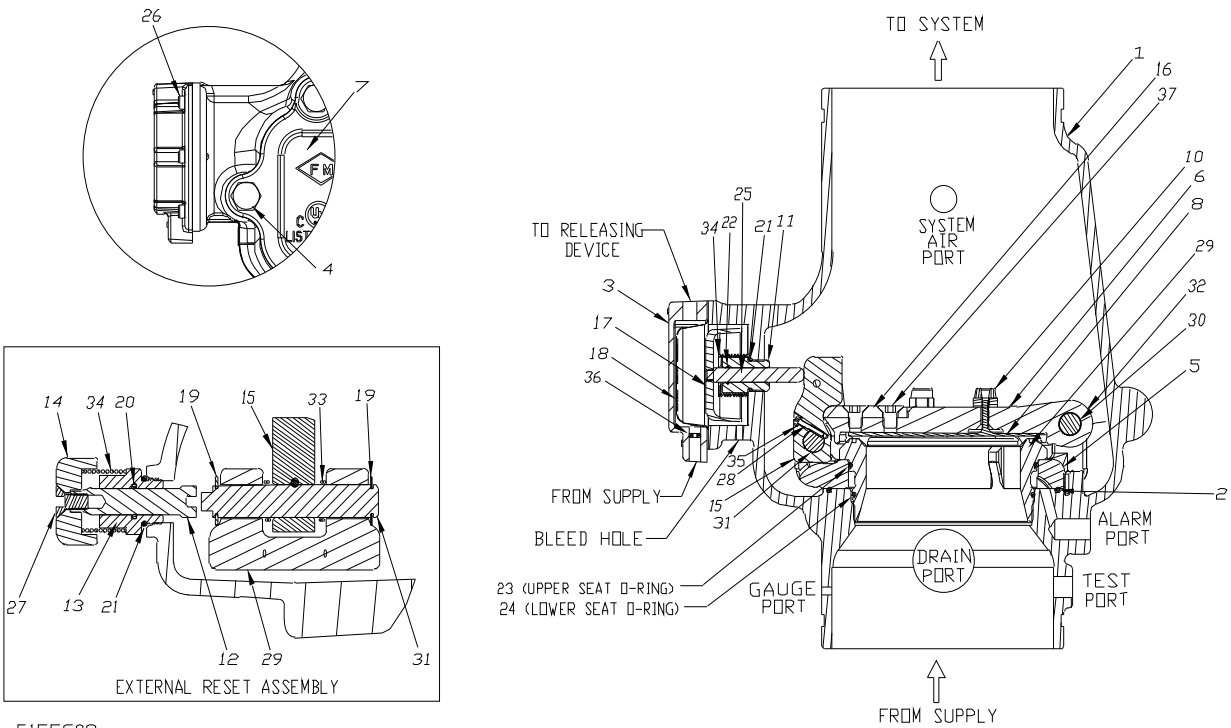
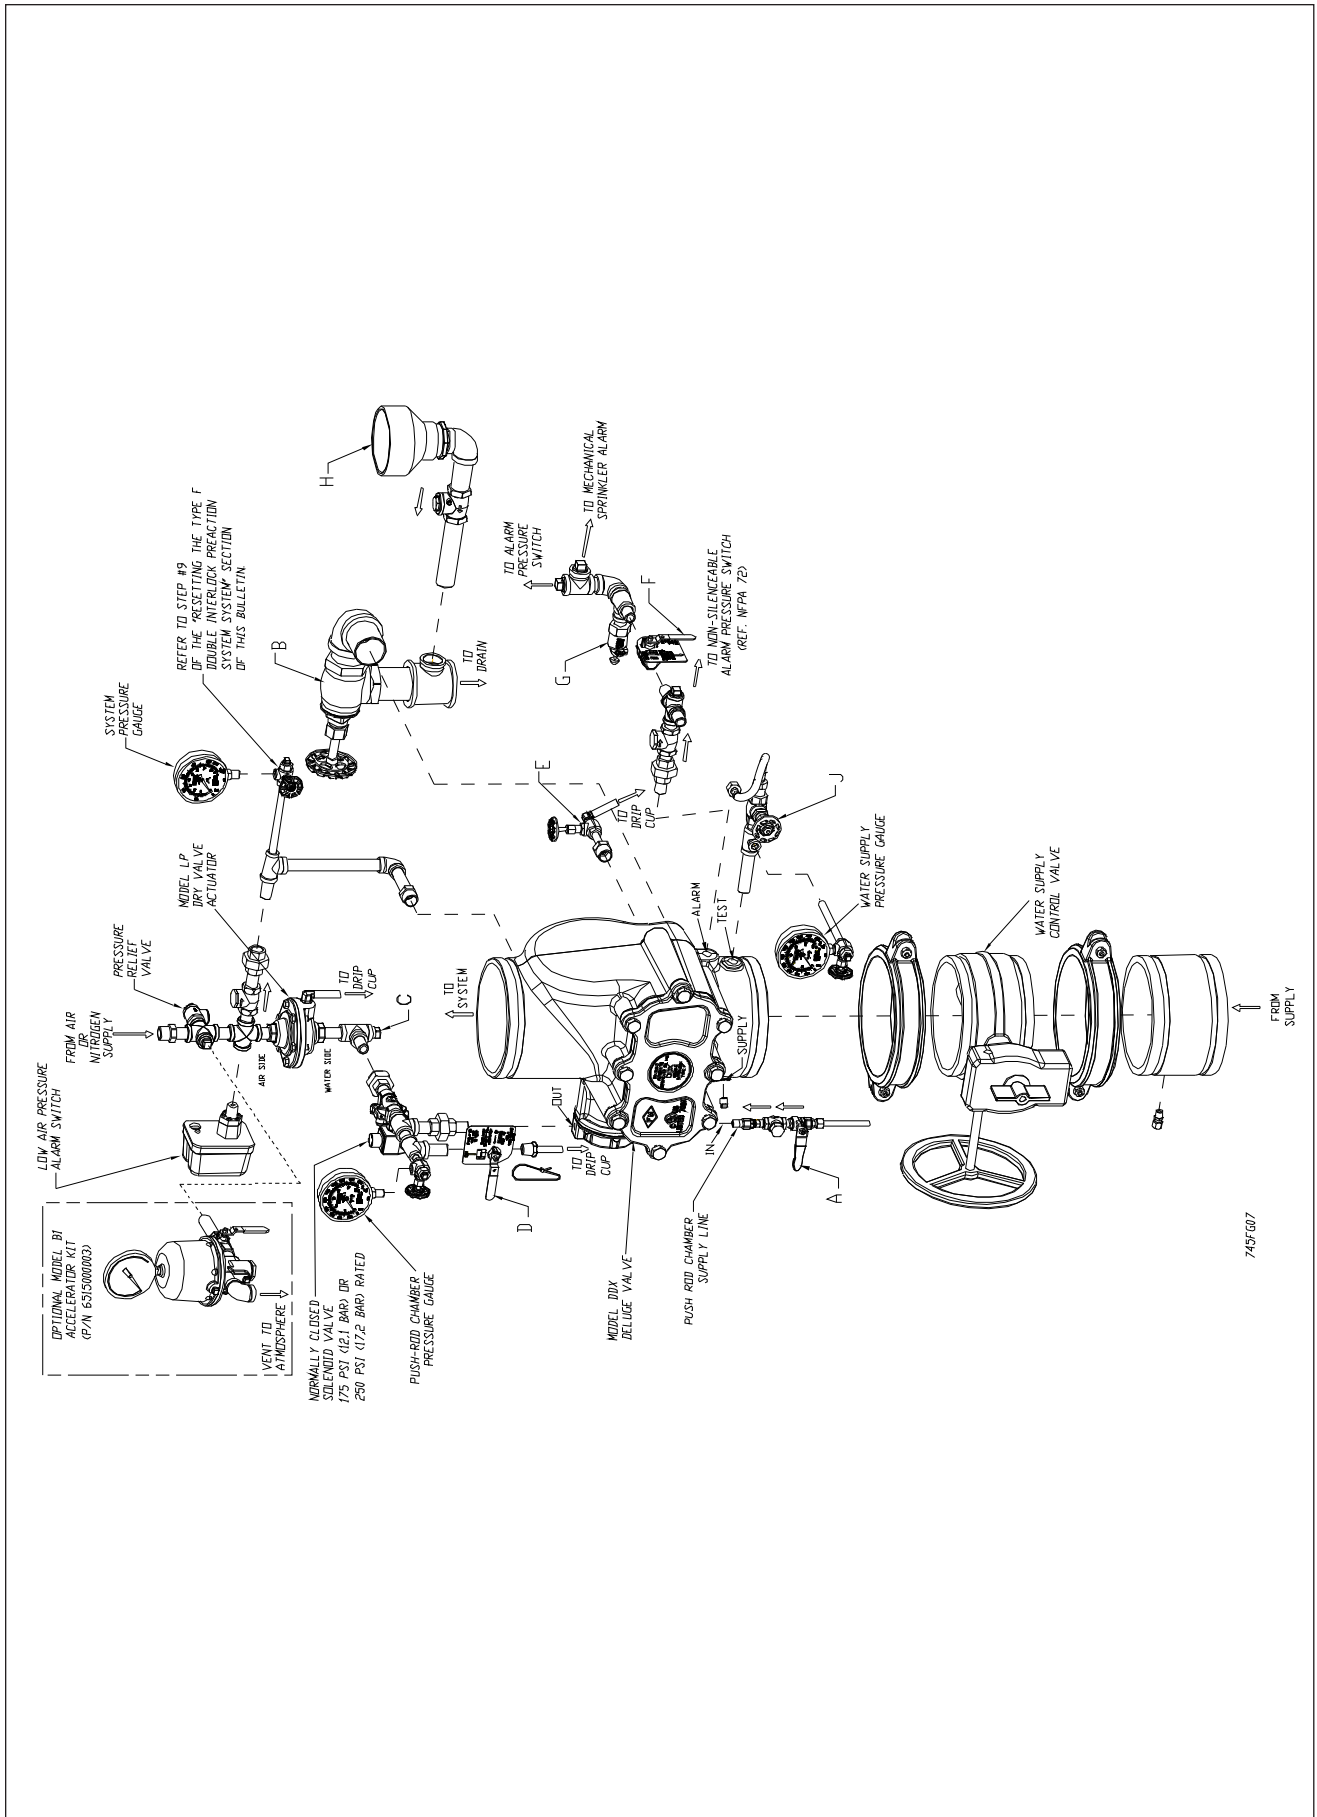

Fig. 6
Fig. 7
- Close the main valve controlling water supply (Fig. 7) to the Deluge Valve and close off the air/nitrogen supply to the sprinkler system.
- Close the pushrod chamber supply valve; valve A (Fig. 7).
- Open the main drain valve, valve B (Fig. 7), and drain system.
- Open all drain valves and vents at low points throughout the system, closing them when flow of water has stopped. Open valve D (Fig. 7). **Note:** The above steps accomplish the relieving of pressure in the pushrod chamber of the Deluge Valve.
- With Valve F (Fig. 7) open, push in the plunger of ball drip valve, valve G (Fig. 7), to force the ball from its seat, and drain any water in the alarm line.
- With the Model B Manual Emergency Station, valve D (Fig.7), open, push in and rotate the Deluge Valve's external reset knob (#14, Fig. 6) clockwise until you hear a distinct clicking noise, indicating that the clapper has closed. **Note:** The reset knob can be rotated only when pressure in the pushrod chamber is vented to atmospheric conditions (0 psig).
- Close valve F (Fig. 7). Activate a solenoid-release pull station (Or other means of electric detection. Refer to Bulletin 700, "Special Hazards & Special Systems") to energize the solenoid valve. Silence any alarms or audible tones by pressing the "Remote Silence" and/or "Local Silence" buttons on the releasing/control panel. Open valve A (Fig.7) to begin pressurizing the push-rod chamber and its associated piping, while simultaneously venting any entrapped air. **Note:** This venting of the air from the actuation piping is very important to ensure proper system operation and avoidance of falsely tripping the Deluge Valve.
- Upon seeing a solid flow of water from the drain tubing, and the cessation of the "gurgling" sound at the drip cup, H (Fig. 7), close valve D (Fig. 7) then rapidly apply compressed air or nitrogen into the Model LP Dry Valve Actuator (and the sprinkler system) until the pressure conforms to Table A levels as indicated on the air pressure gauge (Fig. 7). The Model LP Dry Valve Actuator will close during this pressurizing process and the water will stop flowing into the drip cup. **Note:** It may be necessary to temporarily close the main drain valve B (Fig. 7) in order to build sufficient air pressure to "set up" the Model LP Actuator. Once the Model LP Actuator is "set up", the main drain valve B (Fig. 7) should be reopened and the remaining procedure followed. At this point, the pressure gauge which indicates pushrod chamber pressure (Fig. 7) will equalize to the available water supply pressure. **Note:** It may be necessary to isolate the system pressure gauge in the supply line to the Model LP Dry Valve Actuator during system set-up
12. Open valve F (Fig. 7). Open slightly the main valve controlling water supply (Fig. 7) to the Model DDX Deluge Valve, closing drain valve B (Fig. 7) when water flows. Observe if water leaks through the ball drip valve, valve G (Fig. 7), into the drip cup, H (Fig. 7). If no leak occurs, the Deluge Valve's clapper is sealed. Open slowly, and verify that the main valve controlling water supply is fully opened and properly monitored.
13. Verify that valve A (Fig. 7) and valve F (Fig. 7) are open.
14. Secure the handle of the Model B Manual Emergency Station, valve D (Fig. 7), in the OFF position with a nylon tie (#56, Fig. 2).
2. **Alarm line** — be sure that valve F (Fig. 7) is opened and remains in this position.
3. **Other trimming valves** — check that valve A (Fig. 7) is open as well as all of the pressure gauge's ¼" 3-way valves. Valves D, E, and F (Fig. 7) should be closed.
4. **Ball drip valve G (Fig. 7)** — make sure that valve F (Fig. 7) is open. Push in on the plunger to be sure the ball check is off its seat. If no water appears, the Deluge Valve's water seat is tight. Inspect the bleed hole (see Fig. 6) on the underside of the push rod chamber for leakage.
5. **System pneumatic pressure** — check air pressure gauge (Fig. 7) and water supply pressure gauge (Fig. 7) for conformance to Table A.
6. **Releasing device - Model LP Dry Valve Actuator (Fig. 7)** — Verify that the outlet is not leaking water. Check the air pressure gauge (Fig. 7) for proper pressure setting. Verify that the tubing line from the Actuator is not pinched or crushed, which could prevent proper operation of the Deluge Valve.
7. **Testing alarms** — make sure that valve F (Fig. 7) is open. Open valve J (Fig. 7) permitting water from the supply to flow to the electric sprinkler alarm switch and to the mechanical sprinkler alarm (water motor). After testing, close valve J (Fig. 7) securely. Push in on the plunger of ball drip valve G (Fig. 7) until all of the water has drained from the alarm line.
8. **Operational test** — Open the Model B Manual Emergency Station, valve D (Fig. 7). **Note:** An operational test will cause the Deluge Valve to open and flow water into the sprinkler system.
9. Secure Model B Manual Emergency Station, valve D (Fig. 7), in the OFF position with a nylon tie (#56, Fig. 2) after the Deluge Valve is reset.
Refer to Fig. 7
3. Remove all six bolts (#9, Fig. 7) holding the Actuator together. Clean or replace the facing plate assembly (#5, Fig. 7) and seat (#3, Fig. 7).
4. Reassemble the Actuator, using a torque of 8 ft-lbs on the facing plate nut (#7, Fig. 7) and 12 ft-lbs on the six bolts (#9, Fig. 7). Use a cross-tightening pattern. Reinstall the Actuator. Set up the Model DDX-LP Dry Pipe Valve as per the section "Resetting Model DDX-LP Dry Pipe Valve System."
### 2. Leakage out of the ball drip valve G (Fig. 7).
#### b. Leakage, air or water from the ball drip valve, G (Fig. 7):
- A. Shut down the valve controlling the water supply to the Deluge Valve and open the 2" main drain valve B (Fig. 7). Open the water column drain valve E (Fig. 7). Close the pushrod chamber supply valve A (Fig. 7) and open the Model B Manual Emergency Station D (Fig. 7).
- a. Shut down the valve controlling water supply to the Deluge Valve. Relieve the inlet pressure by opening the 2" drain valve B (Fig. 7). Close the valve A (Fig. 7) that supplies water to the push rod chamber, and open the Model B Manual Emergency Station, valve D (Fig. 7).